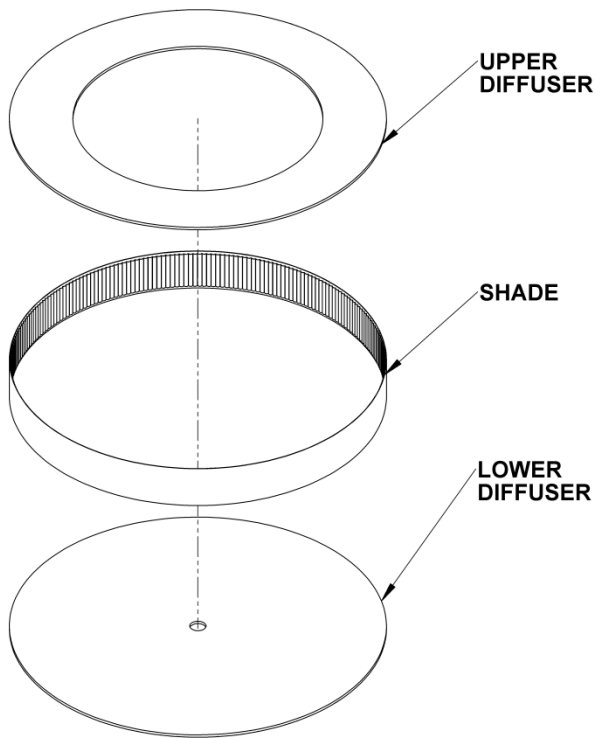

Figure 7
1. Place lower diffuser on a flat surface. (Figure 7 & 8).